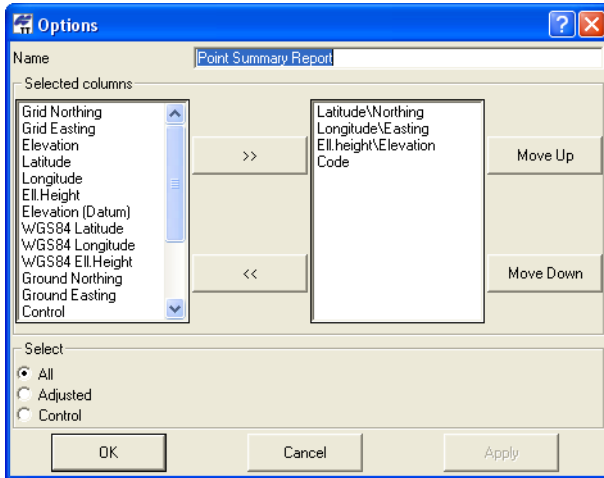

Figure 7-32. Item Options – Point Summary Report
- Point Summary Report – edit the name, select parameters to include or exclude using the move right/move left buttons, order the display of parameters using the Move Up/Move Down buttons, enable the type of points to apply the parameters to, and click **OK** (Figure 7-32).